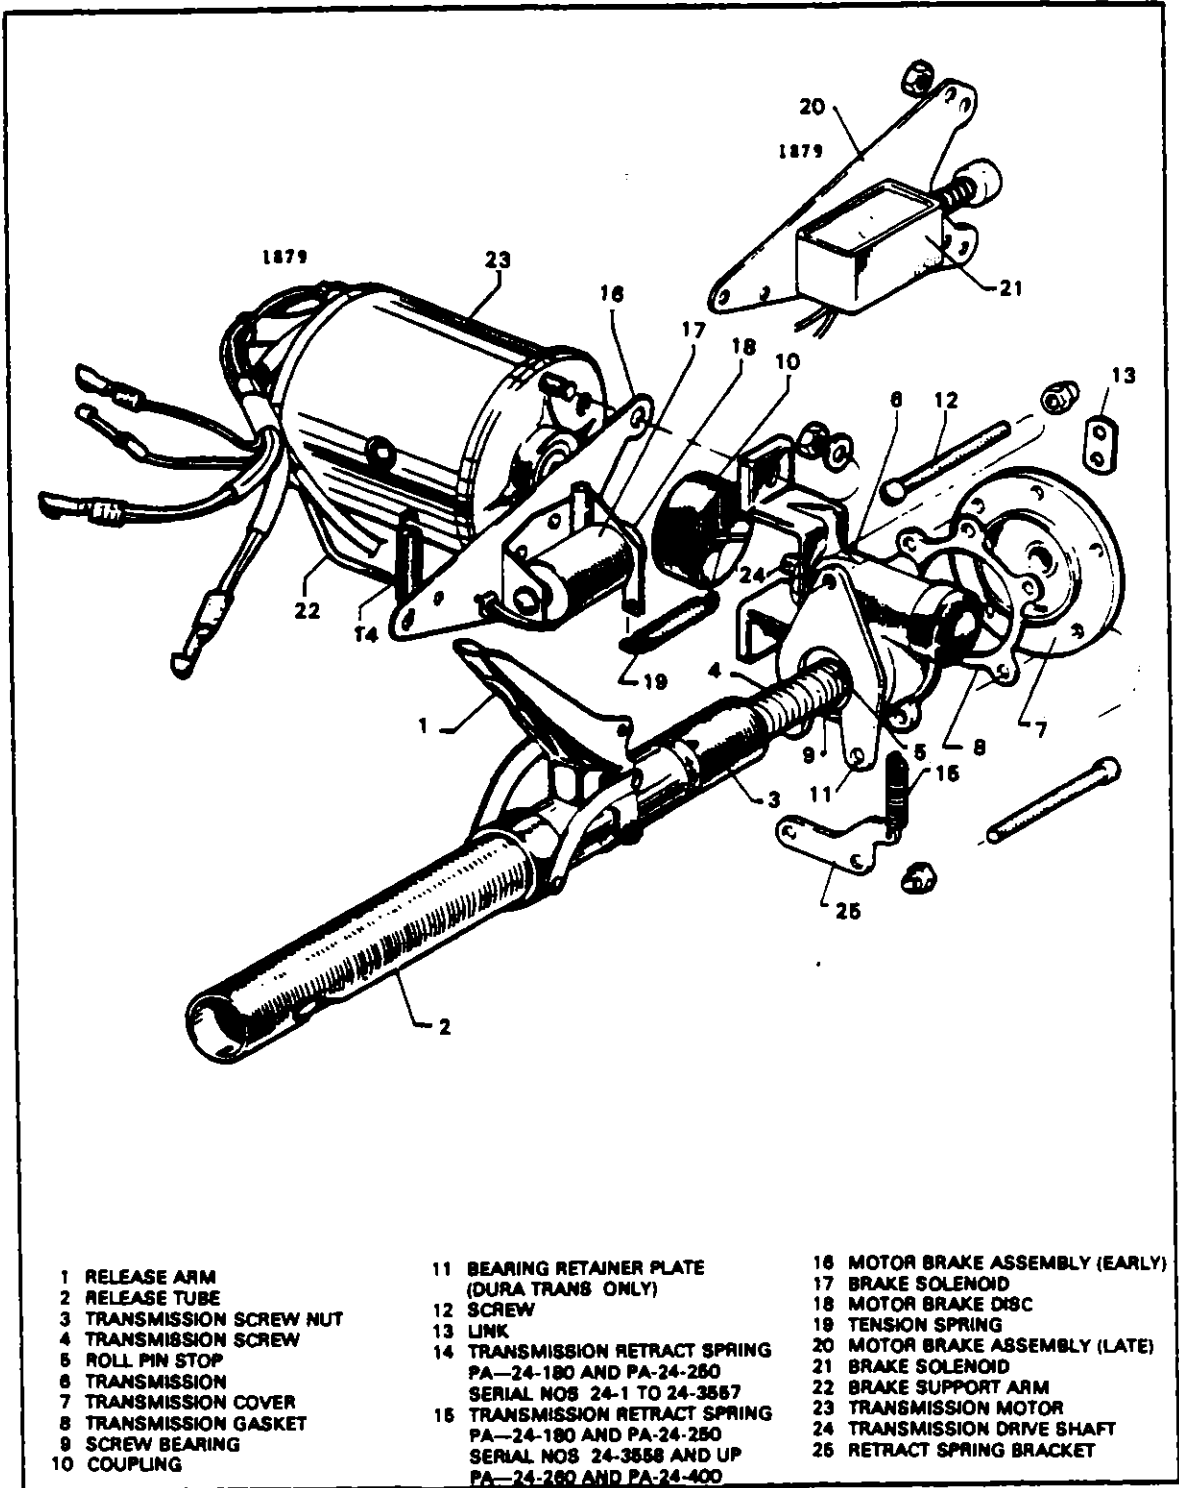

FIGURE 6-13. LANDING GEAR RETRACTION TRANSMISSION ASSEMBLY
- 5 Place the emergency retraction release handle (18) in the full up position.
- 6 Disconnect the transmission retraction spring (23) located on the left side of the transmission housing on models PA-24-180 and PA-24-250, Serial Nos 24-3558 and up; and PA-24-260 and PA-24-400. On models PA-24-180 and PA-24-250, Serial Nos 24-1 to 24-3557 the retraction spring (22) is located on the right side of the transmission assembly connected to the brake solenoid brackets.
**6-44. Cleaning, Inspection And Repair Of Gear Retraction Transmission.** (Refer to Figure 6-13)
- a. Remove the six screws attaching the transmission cover (7) to transmission housing and remove the cover noting the position of the mounting lug.
- b. Wipe all old grease from the transmission housing and from the actuator screw (4) and screw nut (3).
- c. Check the gear release arm (1) and ascertain that it will snap lock in place and will require a load of 6 to 12 pounds applied at the end of the arm to release. Adjust by spreading or compressing the arm sides at the round head rivets to obtain proper fit (early PA-24-180 and PA-24-250 airplanes did not have a snap lock arm and requires a strap to hold the arm in place). Once the arm is released, ascertain that there is no binding through its travel.